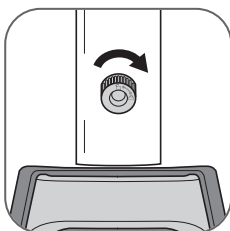

fig. 4
4. Screw the handle fastening screw back in as far as it will go so that the handle is firmly fixed to the base. (fig. 4)